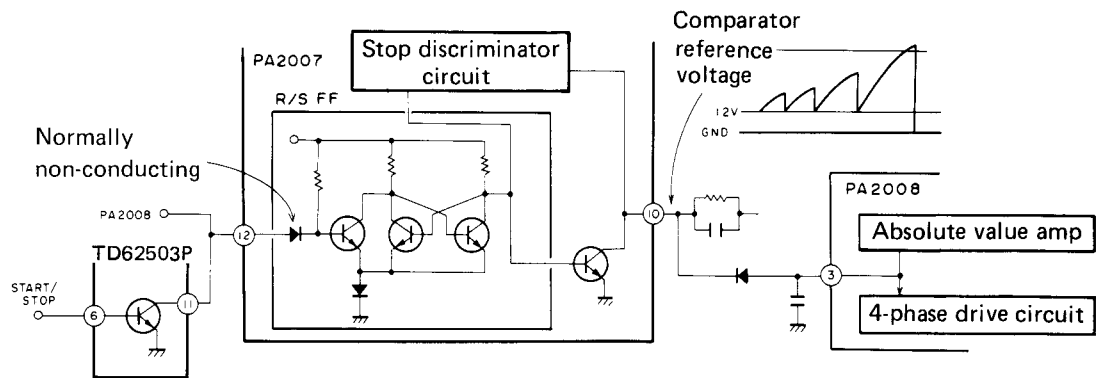

Fig. 12-6 Stop discriminator theoretical circuit
2. The stop discriminator circuit functions to detect low or high rotation speed through the charge/discharge status of capacitors and resistors connected to IC PA2007 pin 10 (To/STOP), and when rotation drops below a certain speed, motor torque is dropped to zero. A theoretical circuit diagram is shown in Fig. 12-6.